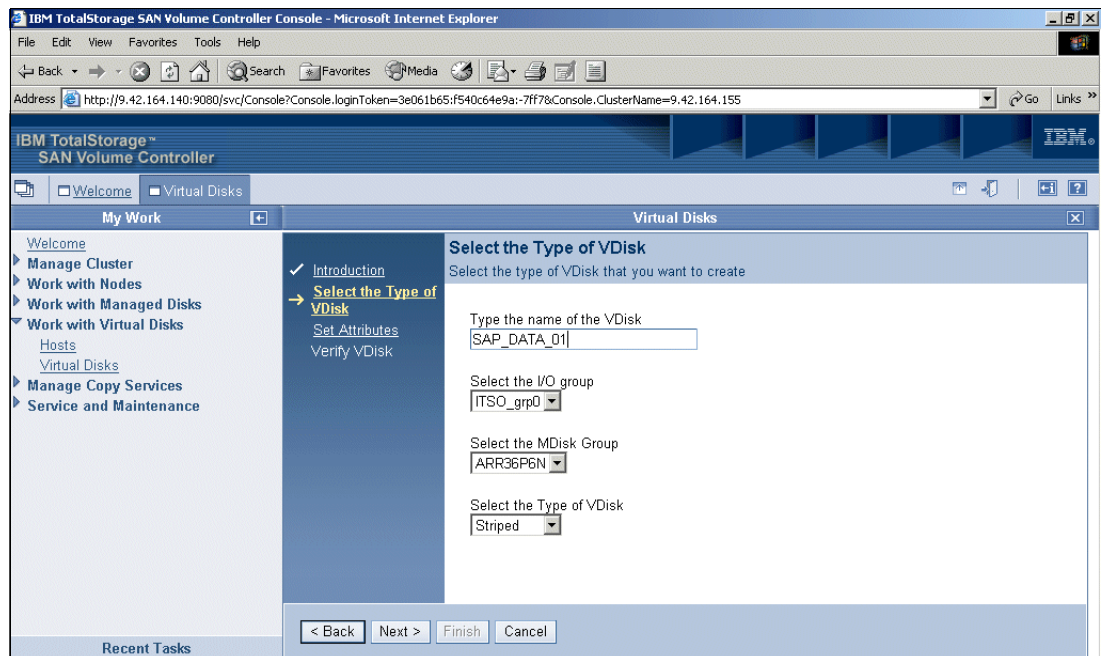

Figure 9-62 Creating a vDisk wizard: Select the Type of vDisk
3. The Select the Type of vDisk panel (Figure 9-62) opens. Type a name for your new vDisk, select the I/O group to which you want to assign the vDisk (in our example, ITS0\_grp0 is the only option). Select the **MDG** within which you want to create the vDisk. Select the type of **vDisk** you want to create (striped, sequential, or image mode). Click **Next**.